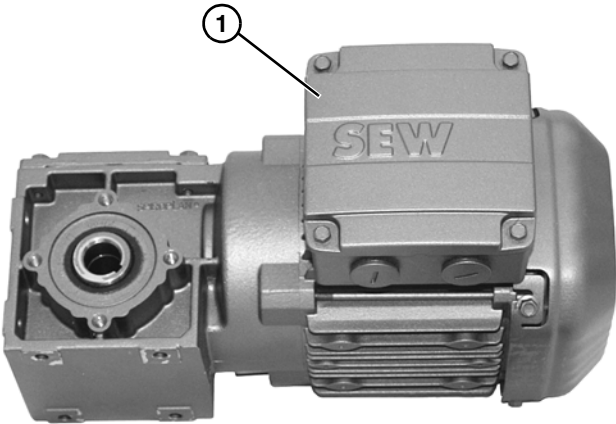

Figure 10
1. Remove cover (Figure 10, item 1).